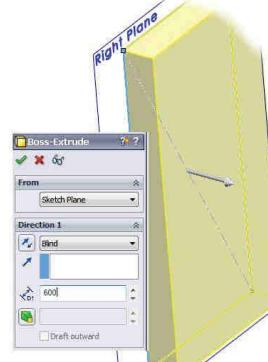

Fig. 5.3
- In caseta **Boss-Extrude** PropertyManager, sub zona **Direction 1** se vor completa, fig. 5.3:
- In the PropertyManager, under **Direction 1**, fig. 5.3: